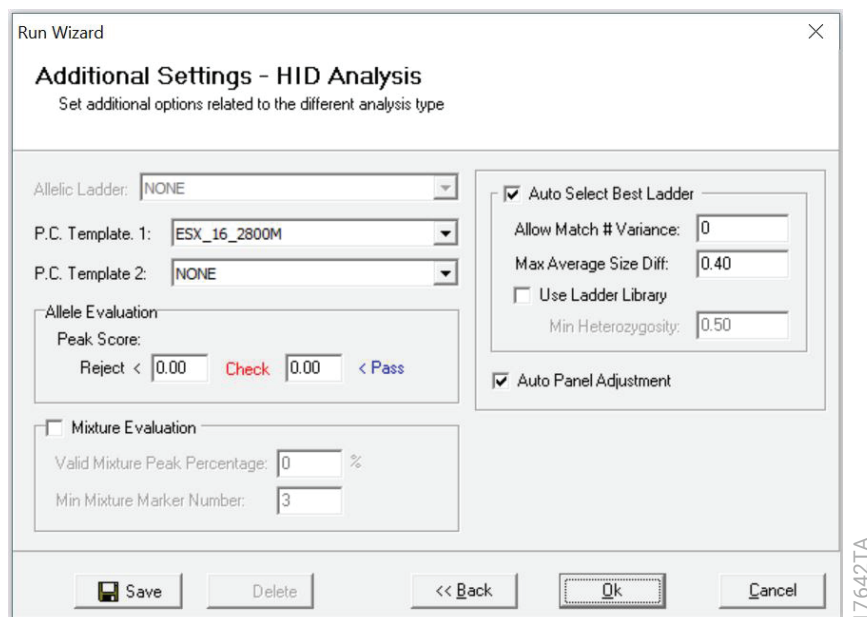

Figure 30. The ‘Additional Settings’ window.
- The 'Additional Settings' window will appear (Figure 30). Select **ESX_16_2800M** as the P.C. Template 1 and verify that the boxes are checked for "Auto Select Best Ladder" and "Auto Panel Adjust". The values displayed in the 'Allele Evaluation' dialogue box are defaults and will affect the quality values displayed in the plot settings. For more information on quality values, use of a second positive control and mixture evaluation, refer to the *GeneMarker®HID Software for Spectrum CE Systems User Manual #TM555*. Select **OK** to analyze the raw data.